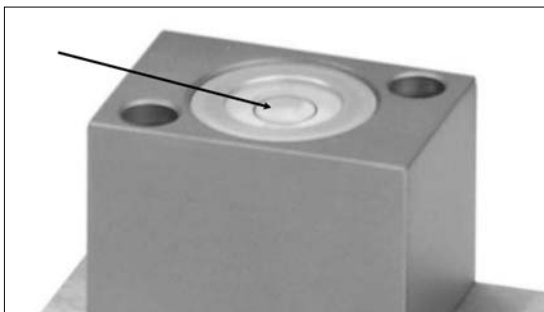

Figure 4
3. Using the leveling bubble on the specimen slide assembly as a guide, adjust the leveling feet such that the platform is horizontal. If the bubble is centered, no adjustment is necessary (see Figure 4).